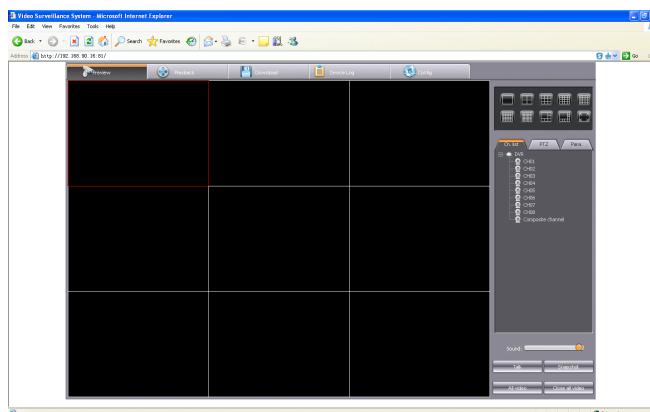

Figure 2
Step2: Type the host IP into windows IE and connect to the DVR. Input the address of the host to access the equipment in the IE browser (<http://device host IP:81>), and then enter to connect, after a successful connection click "Download" button to download, and running control. Refresh the browser, enter your user name and password to login in the login box. If login is successful, the interface will pop up as "Figure 2".